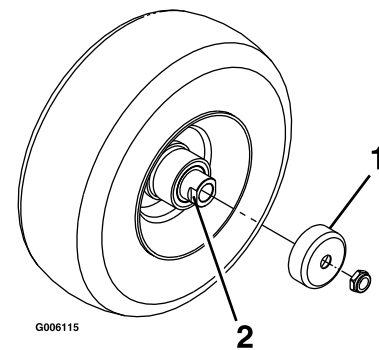

**Figure 39**
9. Remove the grease zerk in the hole. Install the hex plug and dust cap (Figure 39).